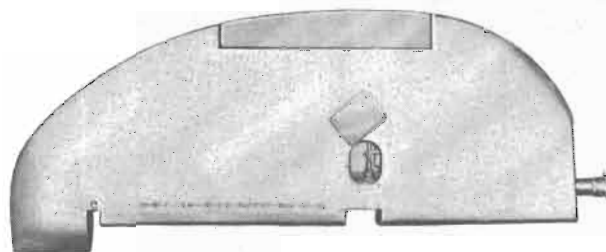

**Figure 77 — Elevator-Stabilizer Installation**
(3) INSTALLATION. — (See figure 77.) — The stabilizer assembly consists of two interchangeable sections which are bolted together through fittings provided on the upper and lower edges at the inboard ends of the rear spar. The stabilizer sections may be installed individually or prior to installing the vertical surfaces as a complete assembly. The elevator sections may or may not be attached to the stabilizer sections. Place the stabilizer in position on the fuselage tail, and secure it to the fuselage. The rear spar of each stabilizer section is held to the fuselage by two bolts; the front spar of each section is held to the fuselage by one bolt.
(1) DESCRIPTION.—(See figures 77 and 78.)—The elevator assembly consists of two interchangeable